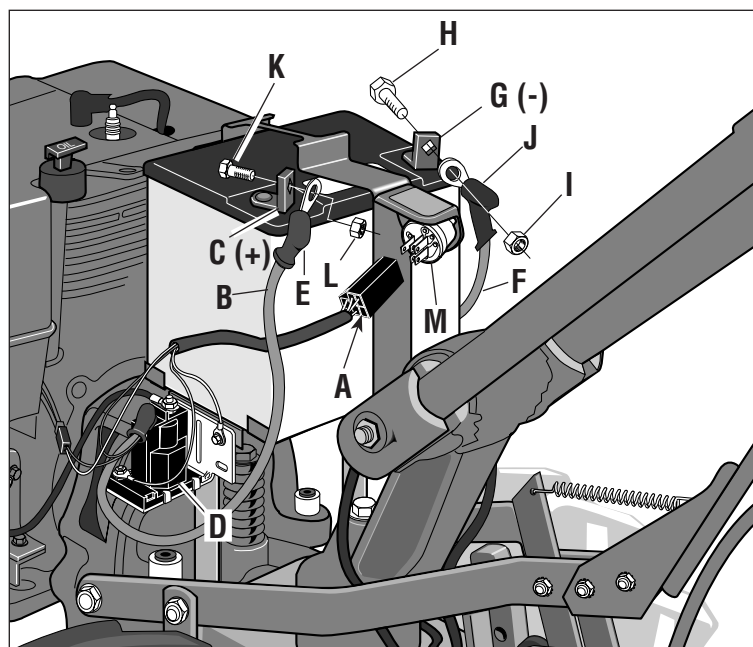

Figure 2-18: Battery cable assembly.
1. Before installing the battery and its hold-down clamp, insert the plastic wire harness receptacle (A, Figure 2-18) into the prongs of the keyswitch (M) located on the hold-down clamp.
1. Use a 5/8" long screw (K, Figure 2-18) and 1/4-20 hex nut (L) to connect the positive (+) battery cable (B) to the positive (marked +) battery post (C). Make sure that this is the cable on the left side, with one end attached to the solenoid (D).
2. Slide the black rubber boot (E) completely over the battery post and cable connector.
3. Use a 5/8" long screw and 1/4-20 hex nut to connect the negative (-) battery cable (F) to the negative (marked -) battery post (G) and secure with screw (H) and nut (I).
4. Slide the black rubber boot (J) completely over the battery post and cable connector.